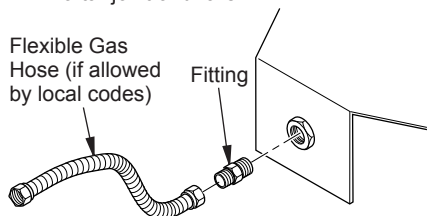

Figure 10 - Attaching Flexible Gas Hose to Heater
1. Connect fitting to base as shown in Figure 10. Connect approved flexible gas hose to fitting in base (see Figure 10).